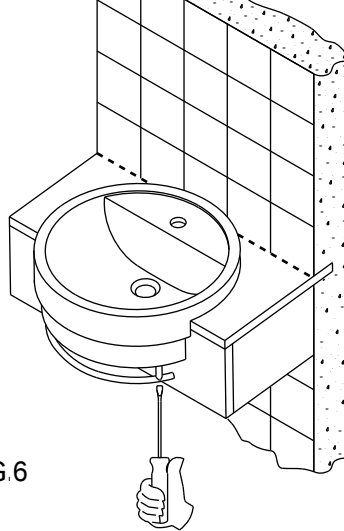

FIG 6
- 8 PARA FIXAÇÃO DO TOALHEIRO ENCAIXE AS BUCHAS NOS FUROS E PRESSIONE O TOALHEIRO CONTRA A BASE DA CUBA, EM SEGUIDA DE APERTO, UTILIZANDO CHAVE DE FENDA CONFORME FIG. 6.
TO FIX THE TOWER RACK, PLACE THE PLASTIC ADAPTER IN THE HOLES AND PRESS THE TOWER RACK AGAINST THE LAVATORY BASE. NEXT PRESS IT FIRMLY, USING A SCREW DRIVER. ACCORDING TO FIGURE 6.